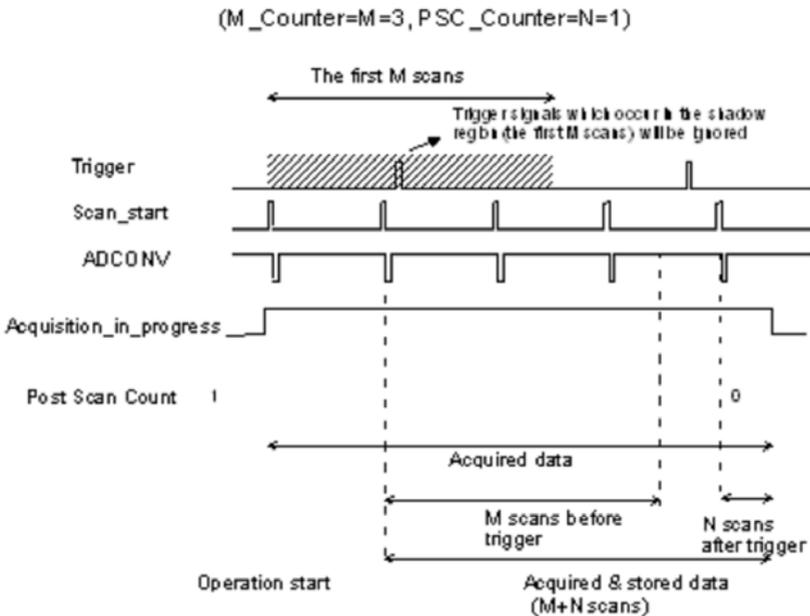
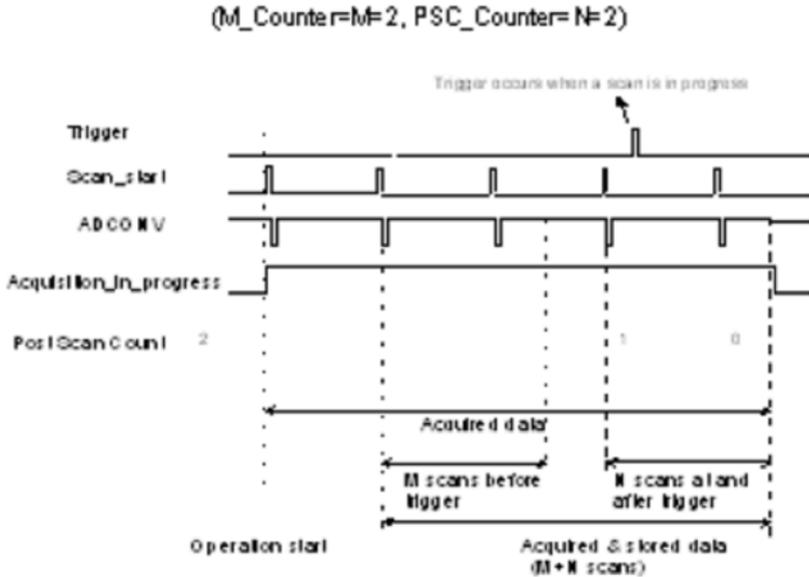

Figure 3-14: Middle trigger with $M_enable = 1$
Figure 3-15: Middle trigger (trigger occurs when a scan is in progress)
Use middle-trigger acquisition in applications where you want to collect data before and after a trigger event. The number of scans (M) stored before the trigger is specified in $M_counter$, while the number of scans (N) after the trigger is specified in $PSC_counter$. Like pre-trigger mode, the number of stored data could be less than the specified amount of data ($M+N$), if an external trigger occurs before M scans of data are converted. The M_enable bit in middle-trigger mode takes the same effect as in pre-trigger mode. If M_enable is set to 1, the trigger signal will be ignored until the first M scans of data are converted, and it assures the user with $(M+N)$ scans of data under middle-trigger mode. However, if M_enable is set to 0, the trigger signal will be accepted at any time. Figure 3-14 shows the acquisition timing with $M_enable=1$.
If the trigger event occurs when a scan is in progress, the stored N scans of data would include this scan, as illustrated in Figure 3-15.
M_counter defined in Middle-Trigger is different from that of Pre-Trigger. In Middle-trigger, M_Counter ends counting before the trigger event while in Pre-Trigger, M_Counter ends counting right at or before a trigger event. Refer to Figure 3-14 and Figure 3-15.